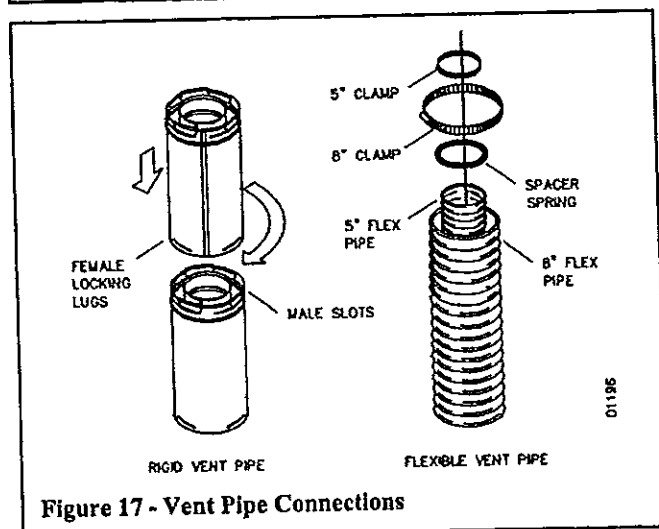

Figure 17 - Vent Pipe Connections
**Twist-lock Procedure:** The female ends of the pipes and fittings have four locking lugs (indentations). These lugs will slide straight into matching slots on the male ends of the adjacent pipes and fittings. (All connections must be sealed with high temperature silicone sealant as specified in the second warning statement on page 7.) Push the pipe sections together and twist one section clockwise approximately one-quarter turn until the sections are fully locked (See Figure 17). NOTE: Horizontal runs of vent must be supported every three feet. Use wall strap for this purpose.
3. Attach the vent pipe assembly to the fireplace using twist-lock connections for rigid pipe or clamp, method for flex pipe. See Figures 19 and 20, on page 9. Set fireplace in front of its permanent location to insure minimum clearances. Mark the wall for a 12 1/2" square hole (for non-combustible material such as masonry block or concrete, a 8 1/2" diameter hole is acceptable). See Figure 18, on page 9. The center of the hole should line up with the centerline of the rigid vent pipe. Cut a 12 1/2" x 12 1/2" (317.5mm x 317.5mm) square hole through combustible exterior wall (8 1/2" (216mm) diameter hole if non-combustible). Frame as necessary (see Figure 17).
2. Assemble the desired lengths of pipe and elbows necessary to reach from the fireplace flue up through the firestop. All connections must be sealed with high temperature silicone sealant as specified in the second warning statement on page 7. Be sure all pipe and elbow connections are fully twist-locked (see Figure 17, on page 8).